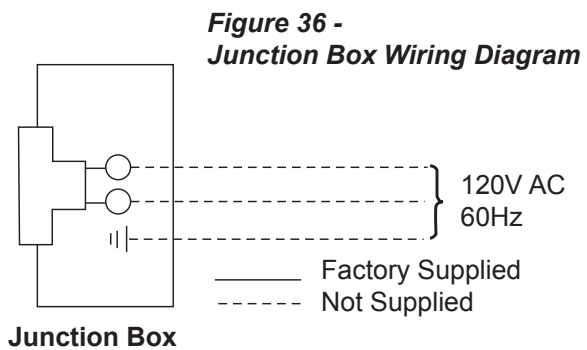

Figure 36 -
3. The junction box cover has a factory installed “romex” style strain relief connector. After connecting the wires, route the wire leads through this connector. Refer to the wiring diagram in *Figure 36*.